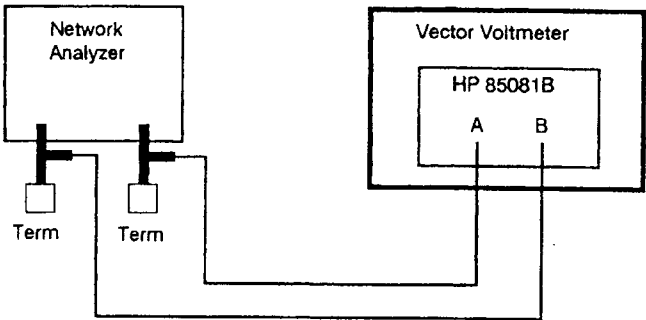

Figure 4-9. SWR Measurement Setup
- 1. Connect the equipment as shown in Figure 4-9.